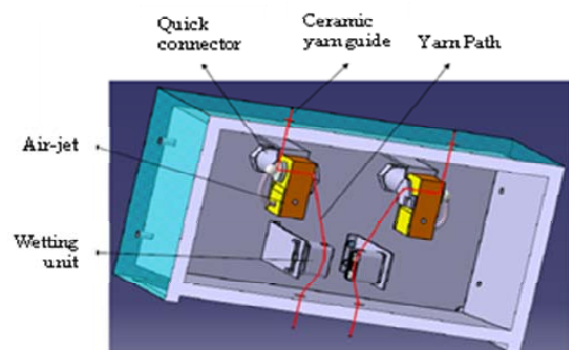

Figure 4. Air-Jet Texturing Box [5].
The air-jet texturing box: After the drawing operation, the yarn is then ready as finished yarn to be fed in the yarn channel of the air-jet nozzle by the FC feed cylinders. The yarn passes through the ceramic guides, which are selected as ceramic to prevent friction between the yarn and the touching surfaces, placed underneath the texturing box. Just before the entry of the feed yarn into the yarn channel, it is wetted by a water jet to wash off most of the spin finish oils as well as to reduce the friction between the filaments and between the filaments and all surrounding yarn guides including the yarn channel of the air-jet nozzle itself. Reduction of the friction improves the texturing tremendously. Such overfed and wetted filaments encounter the air flows coming from a 5-10 bar pressurized air source. The air flow(s) drag and separate the filaments to the exit of the yarn channel where a supersonic, turbulent free air jet is created and where the filaments are forced to turn at a right angle and pulled at a lower speed by the delivery rollers (DR) that rotates slower than the FC rollers. The supersonic and highly turbulent jet of air blows the filaments in all possible directions and hence causes them to entangle and mix together. After the texturing process, the yarn passes through the ceramic plated guides to the twisting head (Figure 4) [5].